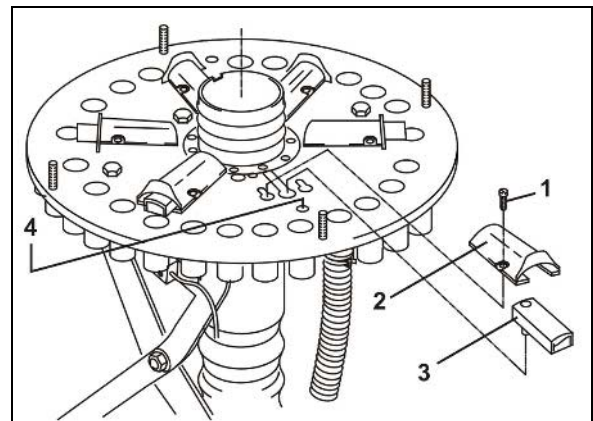

Fig. 144
Deactivate the shutters (Fig. 144/2) when not in use. Deactivated shutters do not close the feed tubes of the tramline coulters. .
7. Slacken the bolts (Fig. 144/1) n.
8. Remove the shutter tunnel (Fig. 144/2).
9. The shutter (Fig. 144/3) is positioned in the guide way as illustrated.
10. Turn the shutter (Fig. 144/3) and insert into the hole (Fig. 144/4).